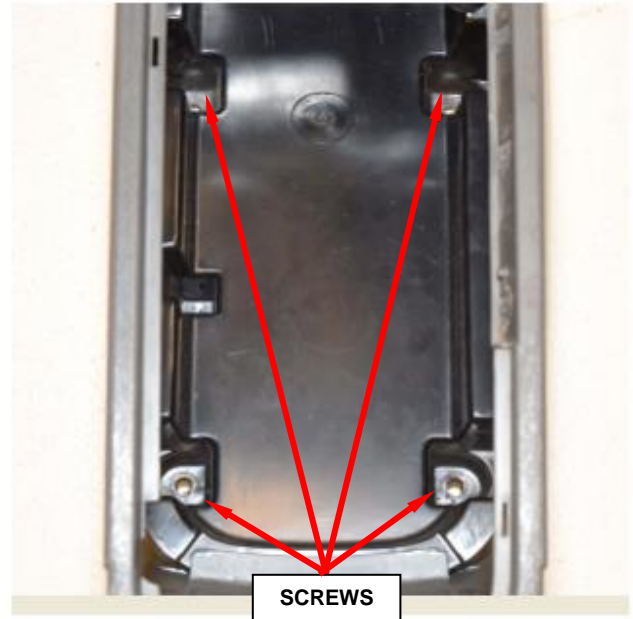

Figure 5 – Floor Console Attachment Screws
6. Remove and save the four console attachment screws (Figure 5).